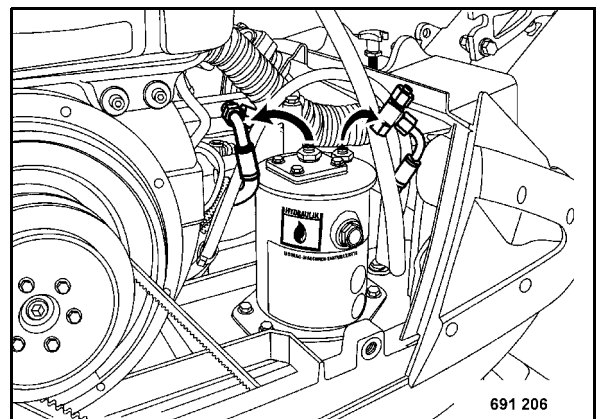

Fig. 75
- Disconnect the connecting hoses (Fig. 75).